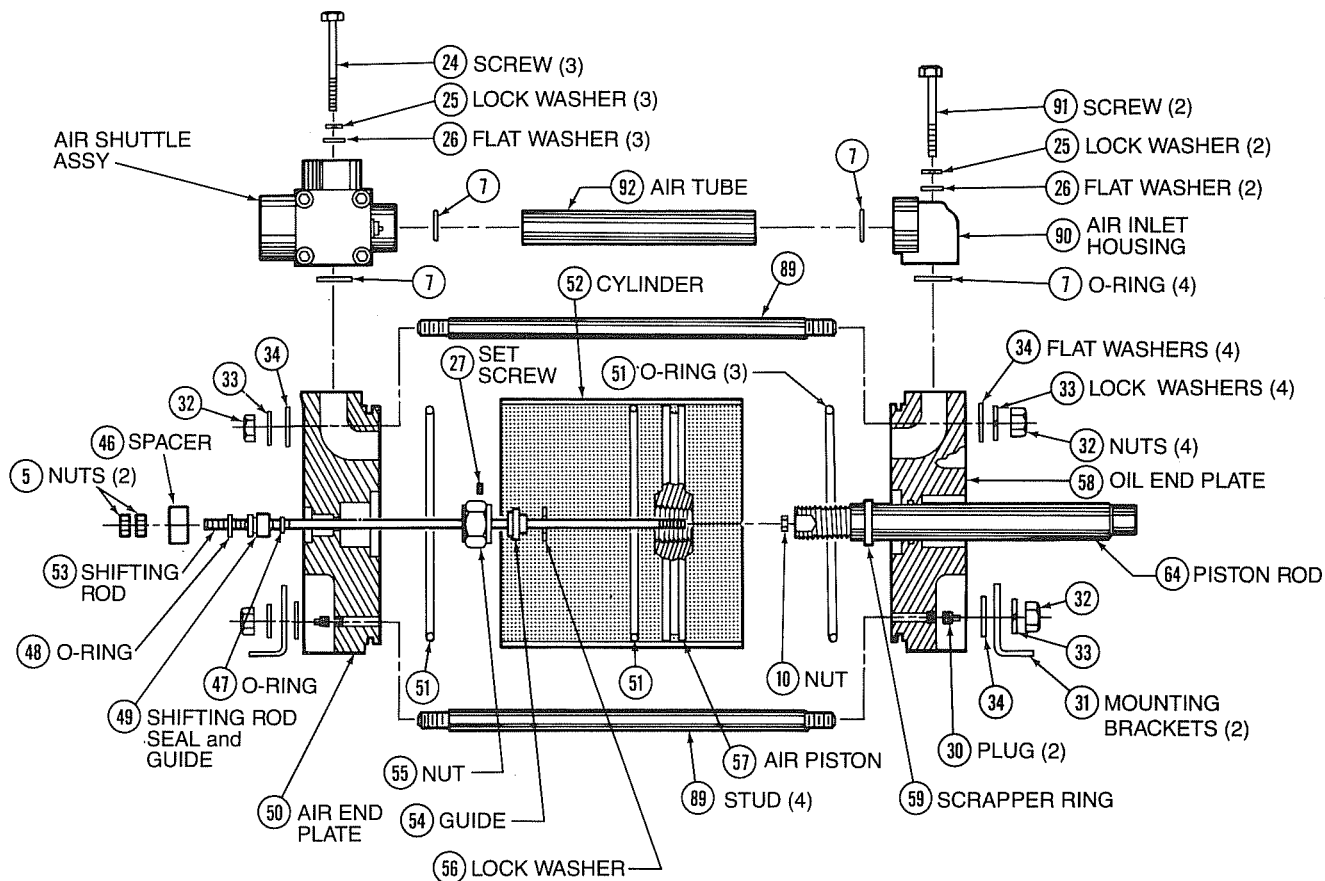

Figure 4-7, Air motor components.
Depending on the need for trouble-shooting or general overhaul, the air motor assembly can be disassembled completely or just in a particular area. Refer to Figure 4-7 for sequence of disassembly.
5.11 In the air motor assembly, check cylinder (52) inside surface for scratches or galling. Check air piston's dynamic o-ring (51) and other o-rings for nicks or excessive wear. See Figure 4-7.